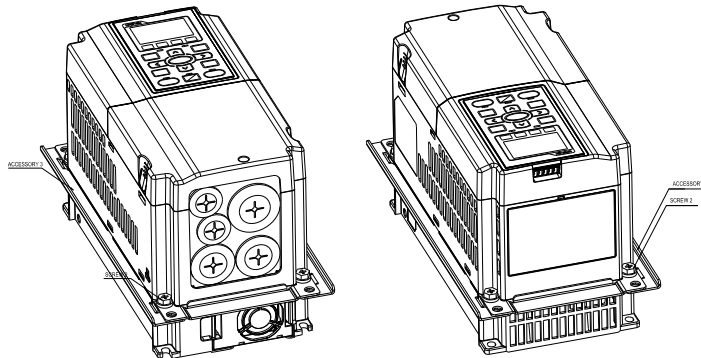

Figure 3
3. Install accessory 2&3 by fastening 2 of the screw 2(M6) (figure 3). Screw torque: 25–30 kg-cm / [21.7–26 lb-in.] / [2.5–2.9 Nm]